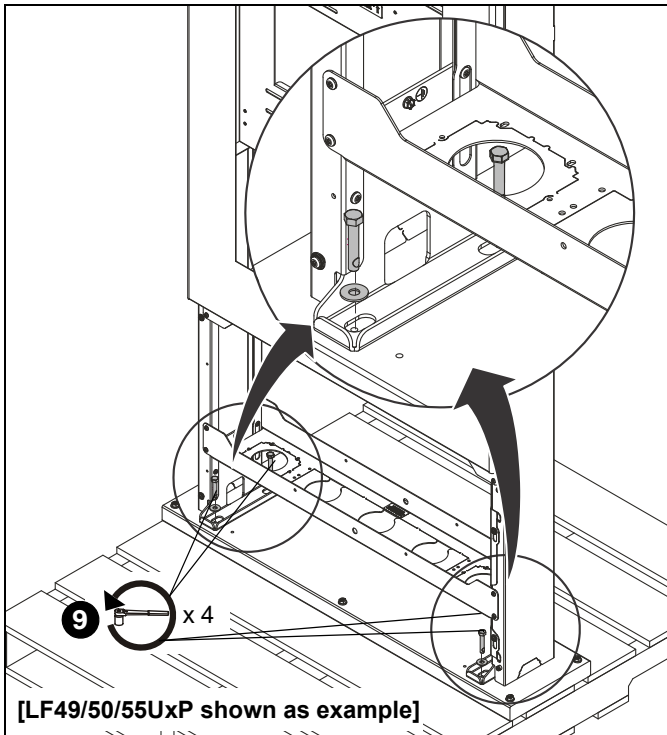

Figure 3
WARNING: TIPPING HAZARD! **Close and lock door(s)** before removing the hex head bolts from the pallet. (See Figure 3) **Keep door(s) closed and locked** until the kiosk is fully secured to the floor. Kiosk may tip if door(s) are open when kiosk is not securely fastened to pallet or to floor.
- Remove and discard the four hex head bolts and washers connecting the kiosk to the pallet, and lift kiosk off wood pallet. (See Figure 3)